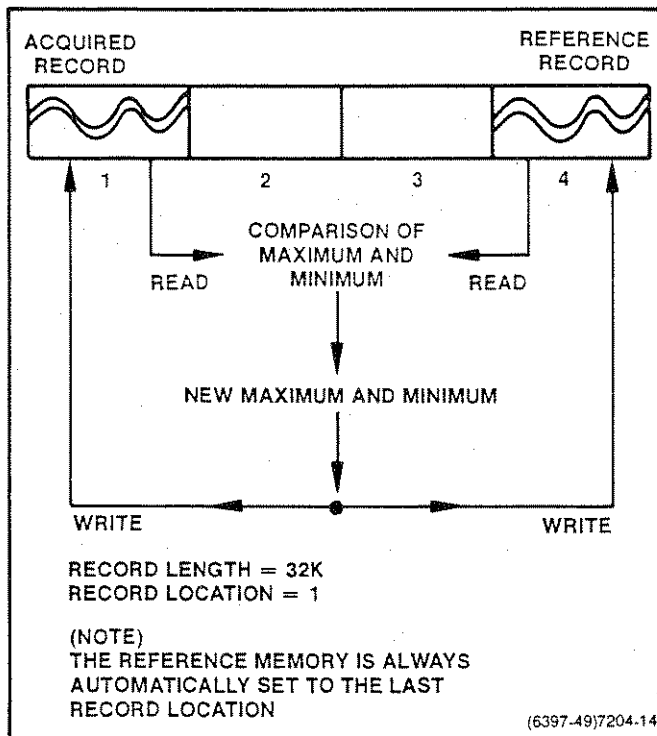

Fig. 3-37. Enveloping two or more times.
2. If the ENV # of TIMES is 2 or more, the first acquired data is sampled as in method 1 above and stored in the specified RECORD LOCATION and reference memory location (last record of the memory). Then on the next and subsequent envelope times, the acquired waveform samples are compared with the maximum and minimum data of the previously stored data to create envelope data that corresponds to each of the sampling points. The results are stored in the record location and reference memory location (Fig. 3-37).